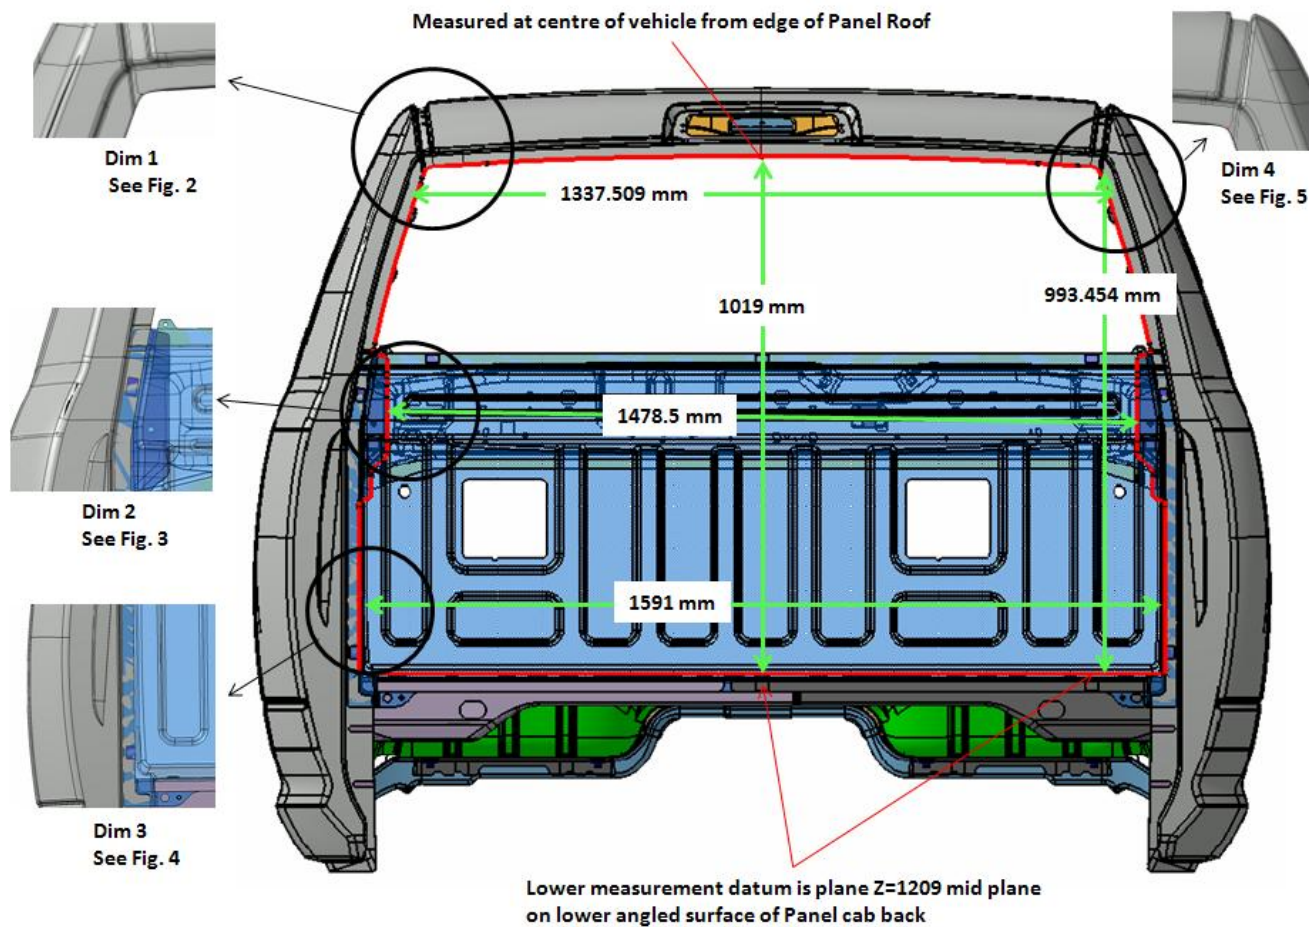

Fig. 1
- The attached diagrams show the maximum amount of material that can be removed from the cab back panel (Fig. 1).
- See Fig. 1 for maximum allowable opening.
- Note: There is a small portion of the cab back panel that is intentional left just above the underbody cross member to create a flange (see Figs. 1 and 4).